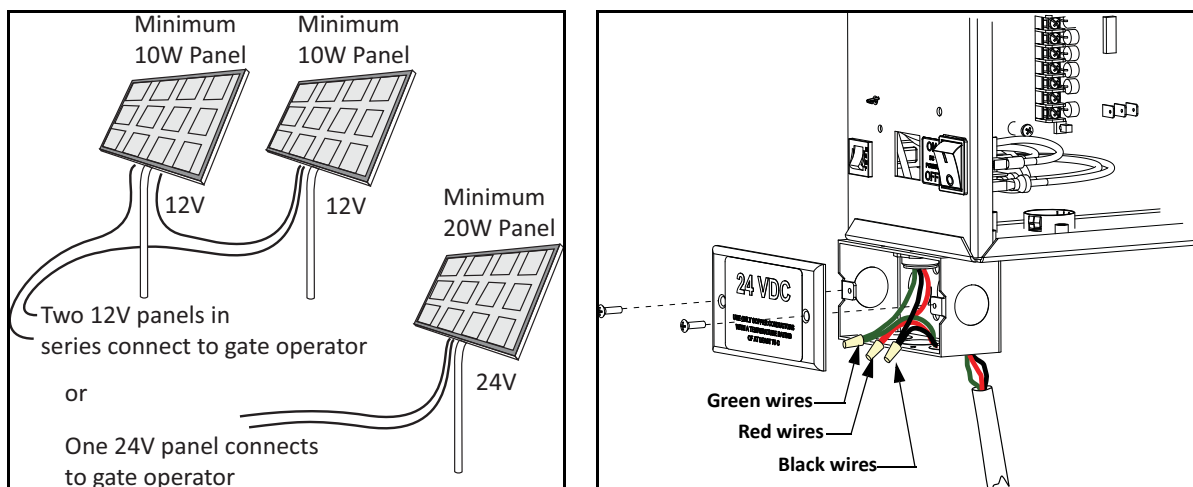

Figure 2-5. Solar Panels and Wiring Connections
- 20WATT solar panel system (minimum requirement). See Figure 2-5.
4. Wire nut or crimp bond the solar panel wires to the black and red input wires. See Figure 2-5.